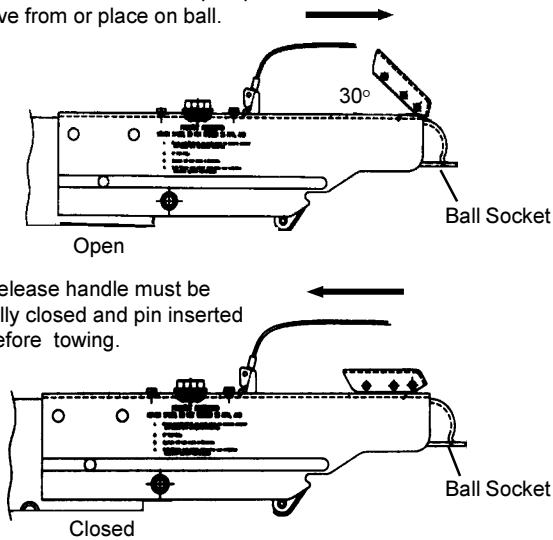

Figure P6: Surge Brake Actuator & Coupling Assembly
For boat models with the Surge Brake Actuator and Coupling Assembly shown in Figure P6, lift the release handle to unlock the coupler. Push down on the release handle/locking lever to lock the trailer to the ball hitch. The locking pin, provided with the trailer, or a padlock **must be inserted** in the locking lever hole. This ensures the the coupler's locking lever remains in the locked position during towing of the trailer. Refer to Section P-3 Operation for additional information on couplers and hitching to the tow vehicle.
2. Lift up on release handle fully (approximately 30° for a trailer with brake actuator and coupler assembly) to allow the ball latch to rotate open. The handle will remain up to indicate that it is not yet attached to the ball. See Figure P6.